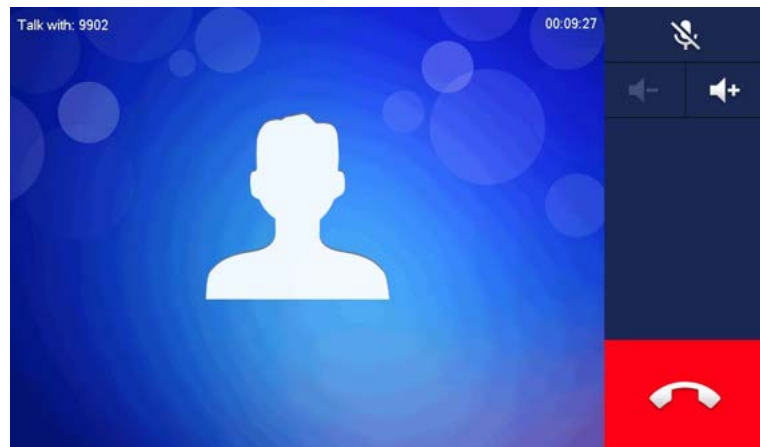

Figure 6-33
- Press  to talk with each other, as shown in Figure 6-33. For key description, please refer to Table 6-6.